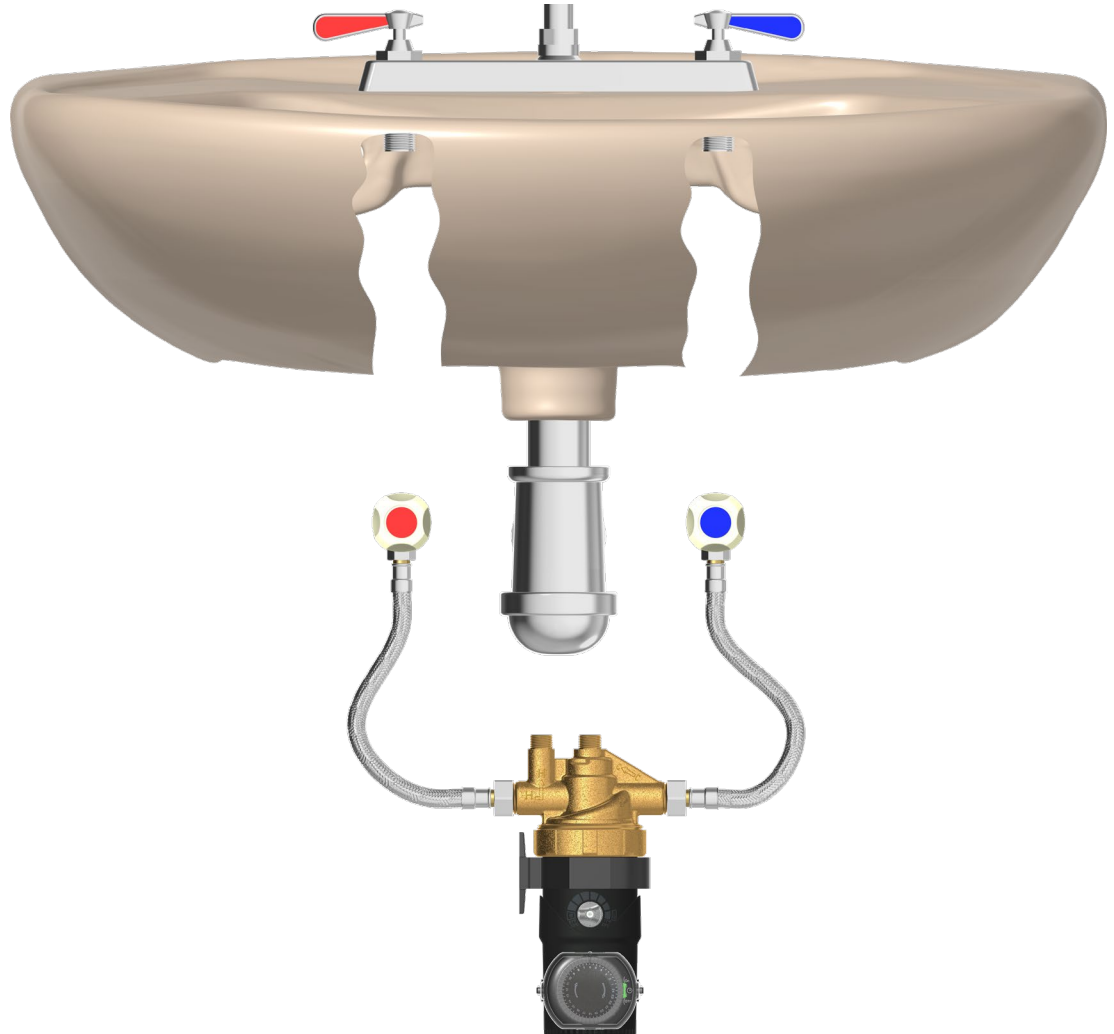

Figure 10
4. Screw on the two existing 1/2" hose connections to the corresponding hot and cold sides of the pump housing (see **Figure 10**). Be sure not to "kink" these existing hose lines during bending which may prevent adequate flow and/or cause the valves to break. If necessary turn the riser shut-off valves into a more favorable orientation. If this is the case shut the water off at the main water inlet valve to the house first.